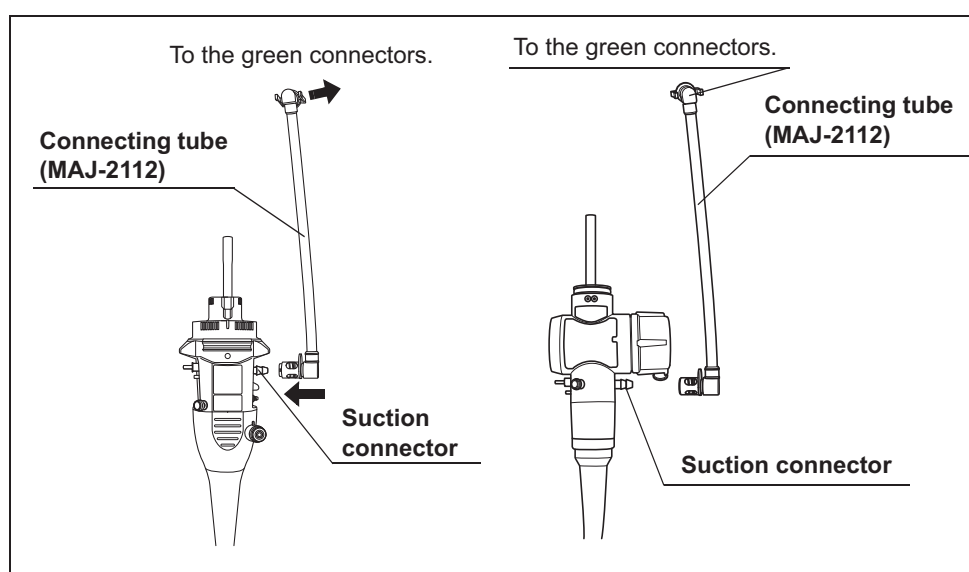

Figure 6.17
- 5 Insert the MAJ-2112 connecting tube into the suction connector of the endoscope until it clicks. For details, refer to Figure 6.17.